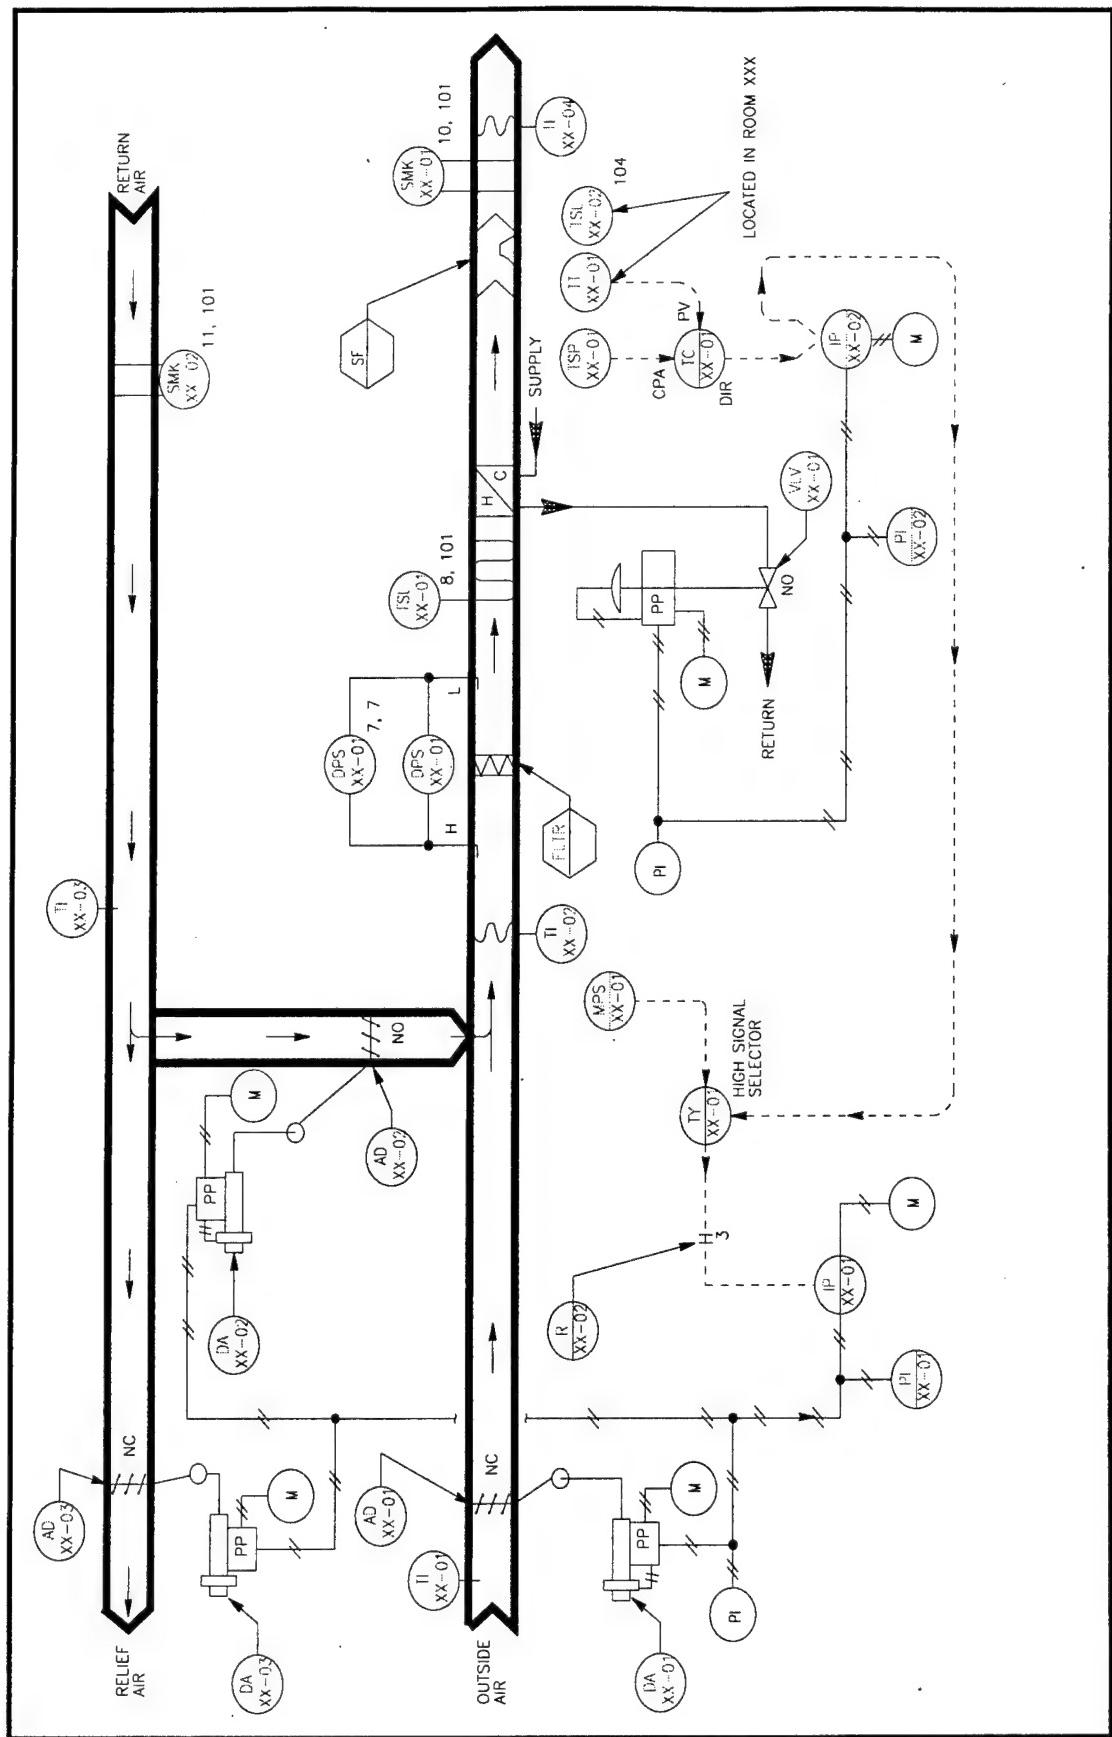

Figure 3. Typical control schematic.
The Control Schematic is a functional diagram that shows the basic layout of the HVAC system controls. The control schematic also includes an equipment schedule and in some cases a sequencing chart. Figure 3 shows a typical control schematic for a heating and ventilating control system. Main (pneumatic) air source indicated by an M. Both main air and pneumatic control signal lines are represented by solid lines with double slashes. Electronic control signal lines appear as dashed lines.
On rung 3 there are 4 relays; R-XX04 (NO) cross referenced to rung 6, R-XX03 (NC) referencing rung 4, R-XX01 (NO) referencing rung 1, and R-XX02 referencing occupied, fan on, vent delay off, and IP-XX01. When the fan is on, the fan motor starters closes a NO contact on rung 6, energizing R-XX04. When R-XX04 is energized, the NO contact on rung 3 closes. When the vent delay mode ends, the CLK NO contact on rung 5 opens, PL XX02 is off and R XX03 is not powered causing the NC contacts of R XX03 to close on rung 3. R XX01 NO contact is closed by CLK on rung 1. When all three relay contacts are closed on this rung, R XX02 is energized. R XX02 is referenced to IP XX01 on the controls schematic. Locate IP XX01 and R XX02 on the control schematic (Figure 3). R XX02 has to be energized to close the NO contact, which completes the control signal circuit from TY XX01 to IP XX01. Note that R XX02 refers back to rung 3.